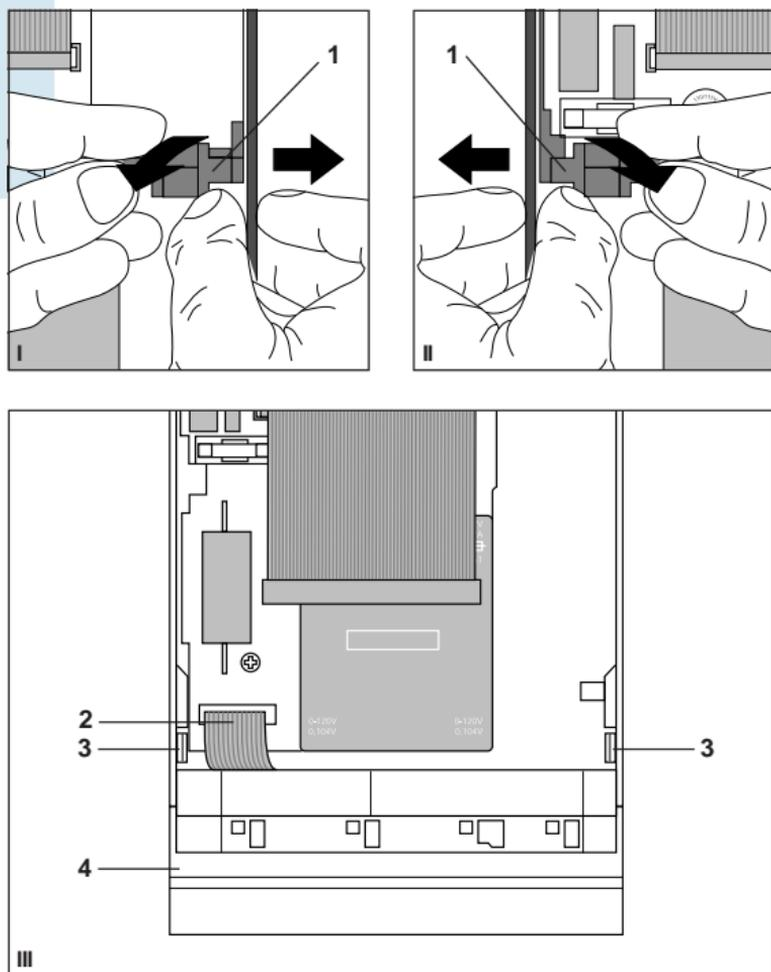

Fig. 12: Replacing the payout set
- 2 Press the right-hand side wall of the housing outward and pull out the engaged intermediate wall **1** with the cash-box channel (see Fig. 12, I).
- 3 Press the left-hand side wall of the housing outward and there pull out the engaged intermediate wall **1** (see Fig. 12, II).
- 5 Undo the flexible connection **2** between the payout set and the PCB (see Fig. 12, III).
- 6 Press the right-hand and left-hand engaging hook **3** inward simultaneously and push the payout set **4** toward the front and out of the housing (see Fig. 12, III).
- 1 Connect the flexible connection **2** (see Fig. 12, III).
- 2 Push the payout set into the housing **3** until the two engaging hooks are engaged (see Fig. 12, III).